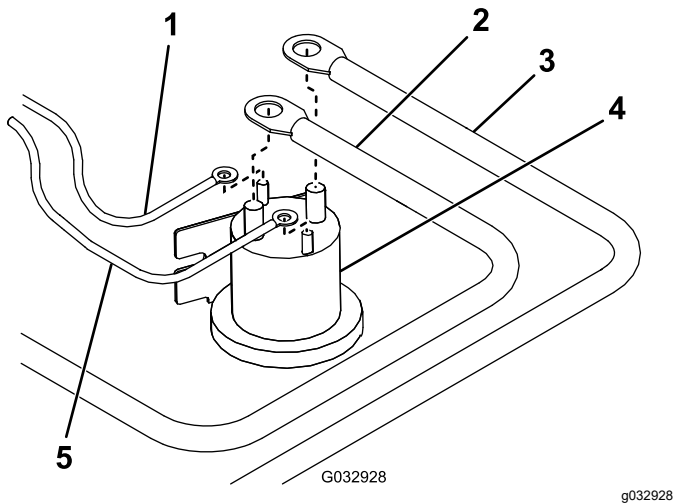

Figure 18
9. Connect the white/black wire from the wire harness to the small post on the pump solenoid (Figure 18).
10. Connect the brown wire with the small ring connector to the other small post on the pump solenoid (Figure 18).
11. Connect the red power/ground cable to the large post on the pump solenoid (Figure 18).
12. Connect the battery cable to the other large post on the pump solenoid (Figure 18).